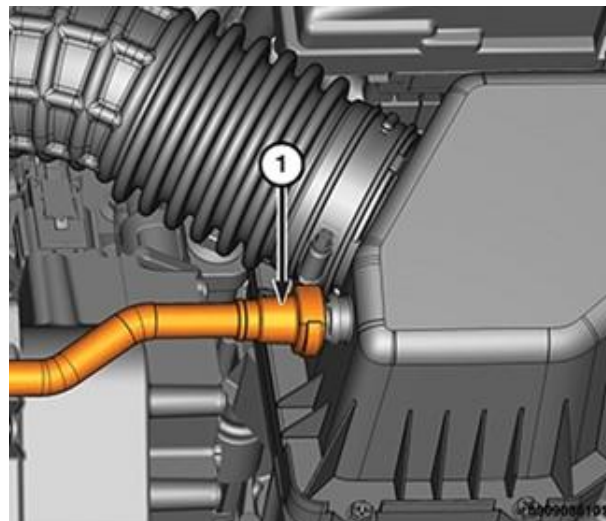

Figure 8 – Make-Up Air Hose
16. Disconnect the make-up air hose (1) from the air cleaner body (Figure 8).